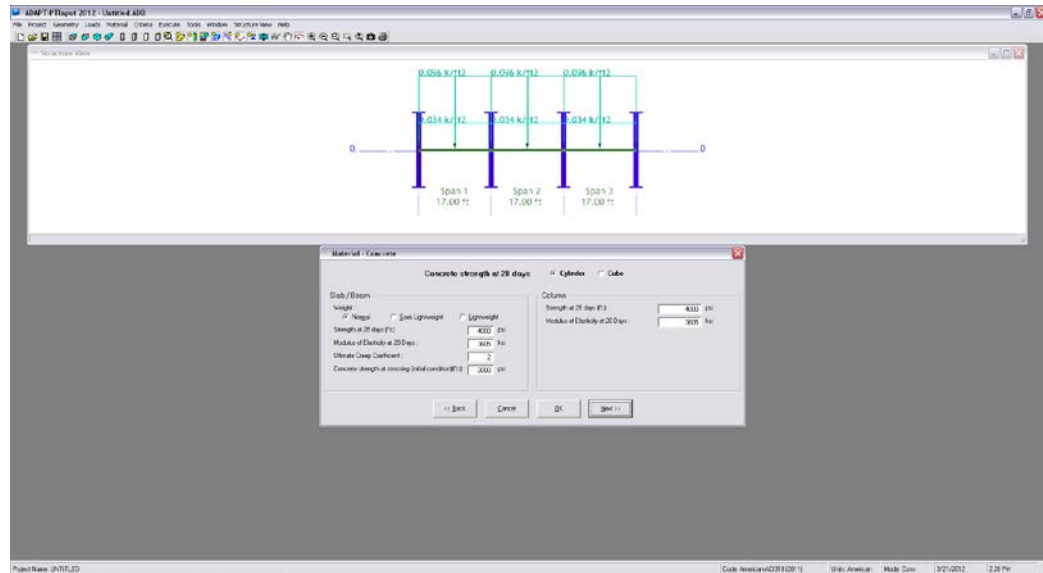

FIGURE 3.1-9
3.1.4.1 Enter The Properties Of Concrete (Fig. 3.1-9)